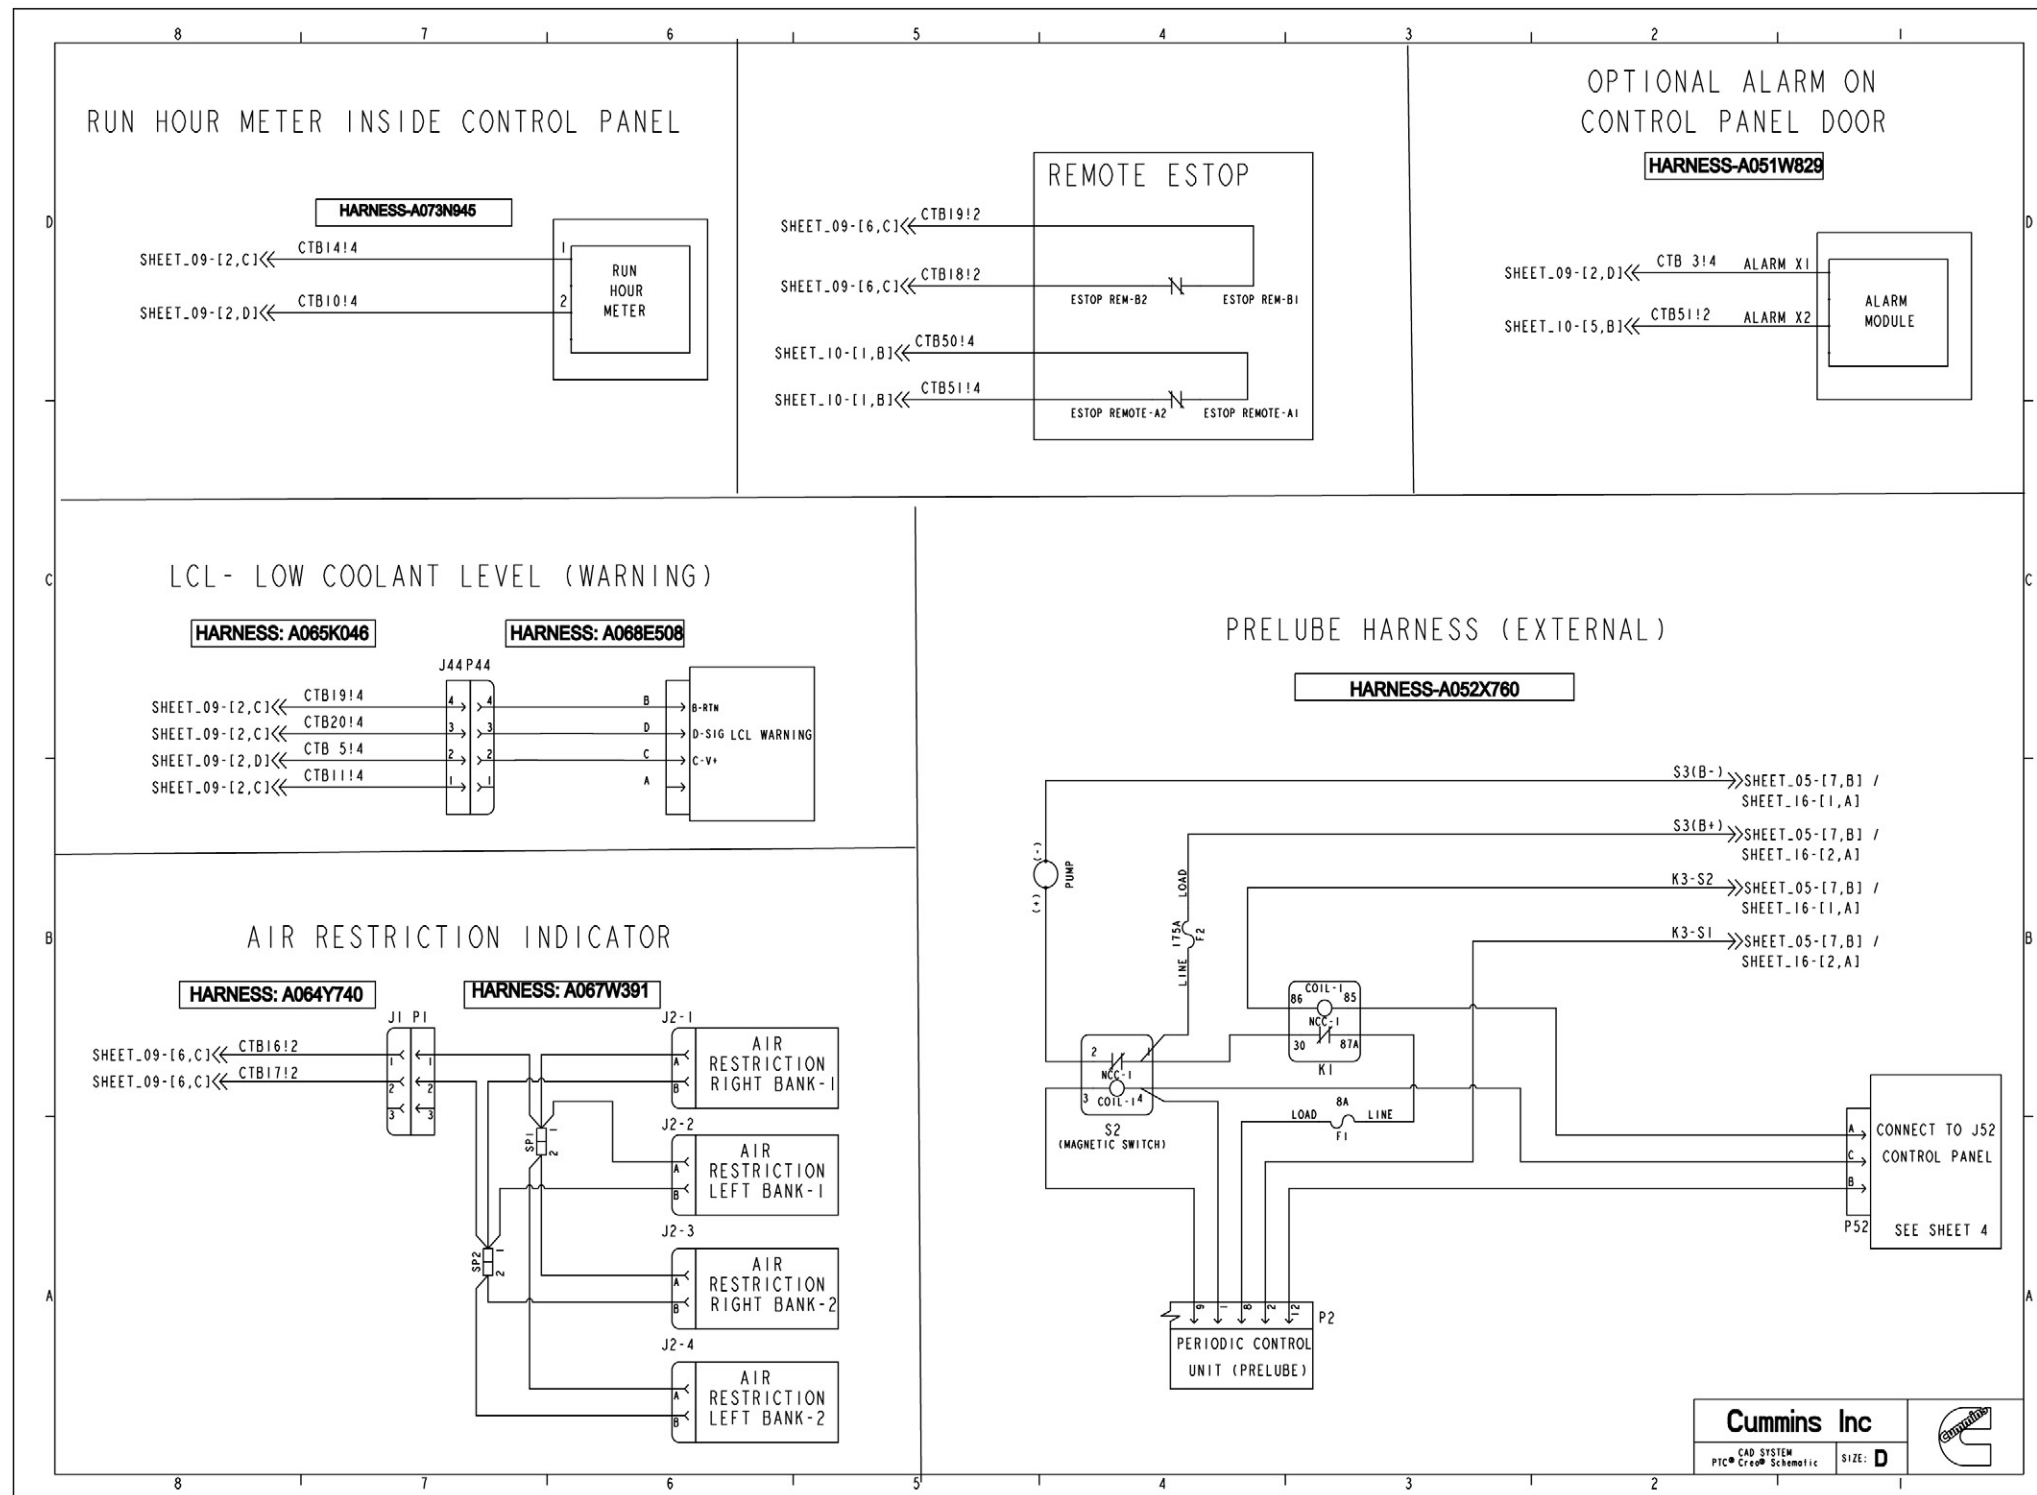

FIGURE 67. WIRING SCHEMATIC (SHEET 12)
- Figure 67. Wiring Schematic (Sheet 12) 122